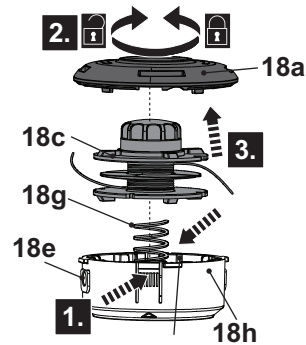

Fig. 28
5. Press the release latches (18e) on both sides and hold them in position (Fig. 28, step 1), then rotate the cover (18a) counter-clockwise to disengage it from the trimmer head (18) (Fig. 28, step 2).
6. Remove the cover (18a) and the trimming spool (18c) from the housing (18h) (Fig. 28, step 3).